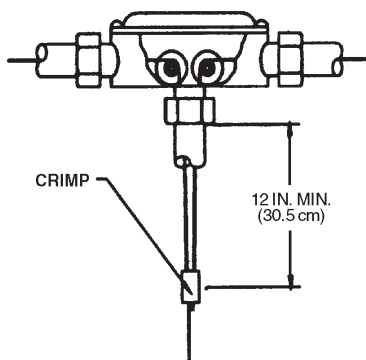

FIGURE 20
The Model TP-1 Tee Pulley is used to connect two (2) remote mechanical pull stations to a single control head. The cable proceeding from the control head must always enter the branch of the tee pulley. See Figure 20.